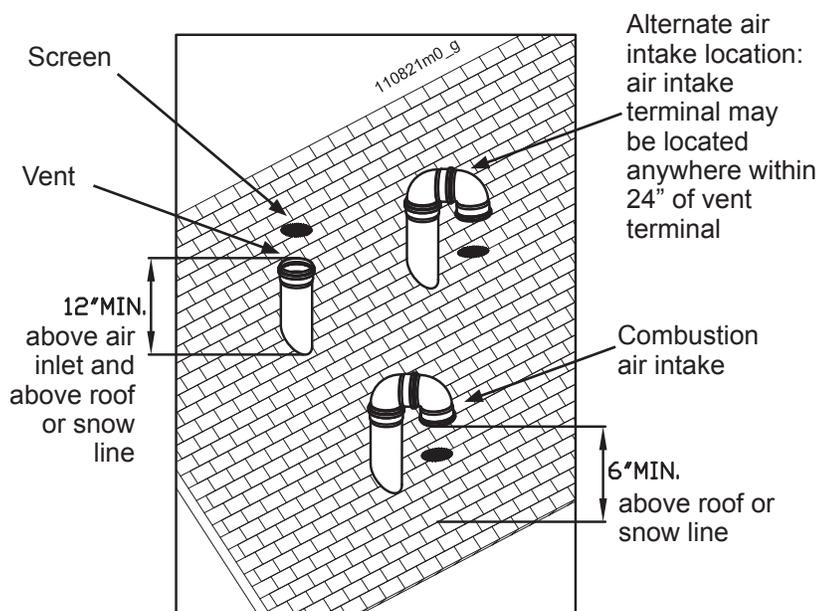

Figure 10-23 Two pipes vertical terminations of air and vent
3. Space the air and vent holes to provide the minimum spacing shown in Figure 10-23 and listed in section 10.13.1.
1. Prepare the vent termination and the air termination elbow (Figure 10-23) by inserting bird screens.
2. The air piping must terminate in a down-turned 180° return pipe as shown in Figure 10-23. Locate the air inlet pipe no further than 2 feet from the center of the vent pipe. This placement avoids recirculation of flue products into the combustion air stream.
3. Maintain the required dimensions of the finished termination piping as shown in Figure 10-23.
4. Do not extend exposed vent pipe outside of building more than shown in Figure 10-23. Condensate could freeze and block vent pipe.